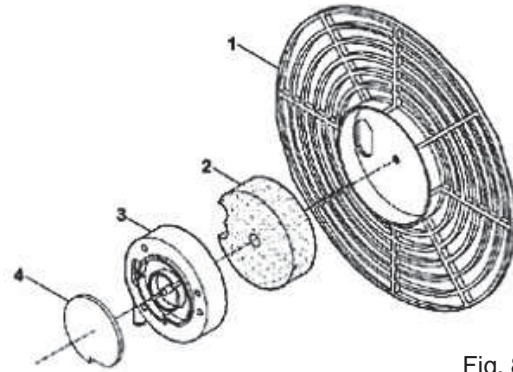

Fig. 8
Every 500 hours: Inspect air filters. Remove filter end cover (1), wash air intake filter (2) using a light detergent and dry it thoroughly before reinstalling. Replace air outlet filter (4) (Fig. 8)